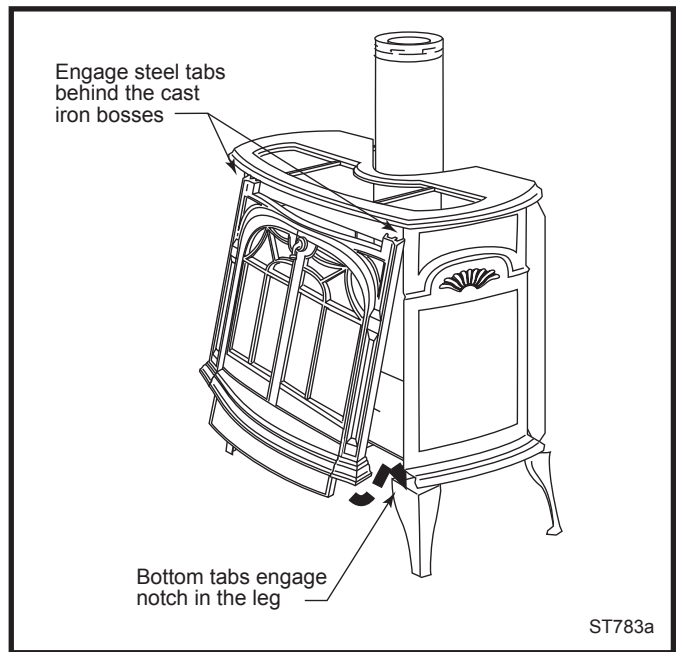

Fig. 21 Install the front plate.
4. Install the left log by engaging hole on bottom with pin on rear log. (Fig. 21) Then set left bottom side on the burner so the edge of the log touches the left side of the firebox.
Hold the front plate by the window bars and lift it into position, engaging the two steel tabs on the top corners behind the adjacent bosses in the side plates. (Fig. 21) Then seat the Front against the sides so the tabs at the bottom lip engage with the notches in the stove legs. When properly installed, the bottom of the Front Plate cannot be pulled away from the sides without also lifting it.